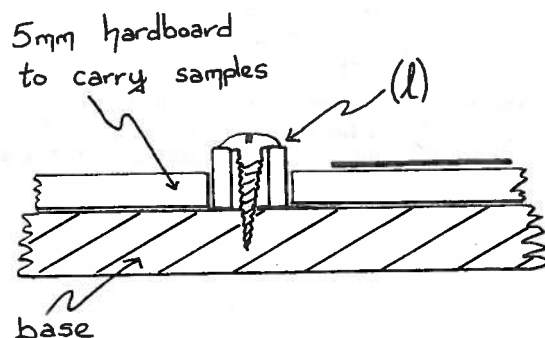

Fig. 4.
- (iii) A simple lug(l) to locate the removable board for holding the samples is made from a half inch no. 8 domed screw with a length of plastic tubing to cover the threads.(Fig.4.)